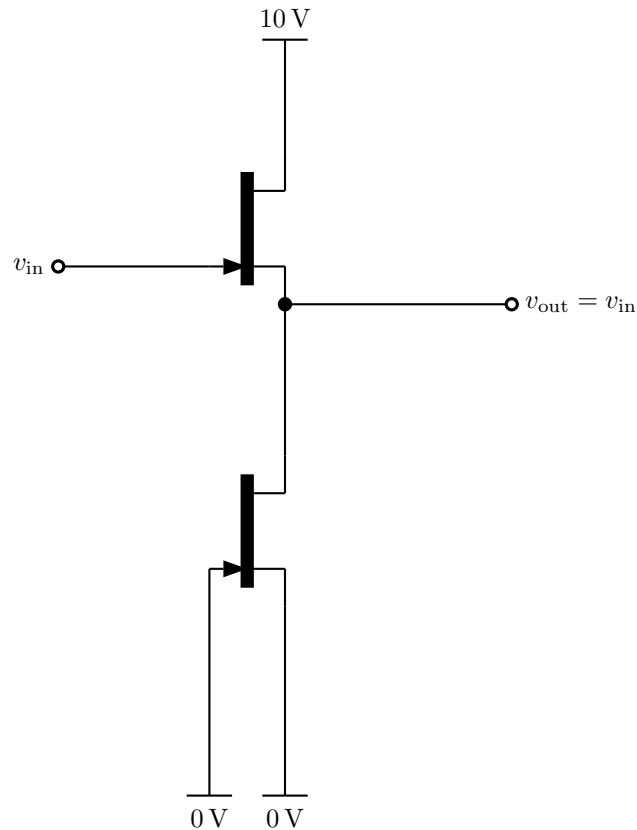

Figure L2-1: JFET source follower using matched JFETs.
- Clever example: JFET source follower in Figure L2-1